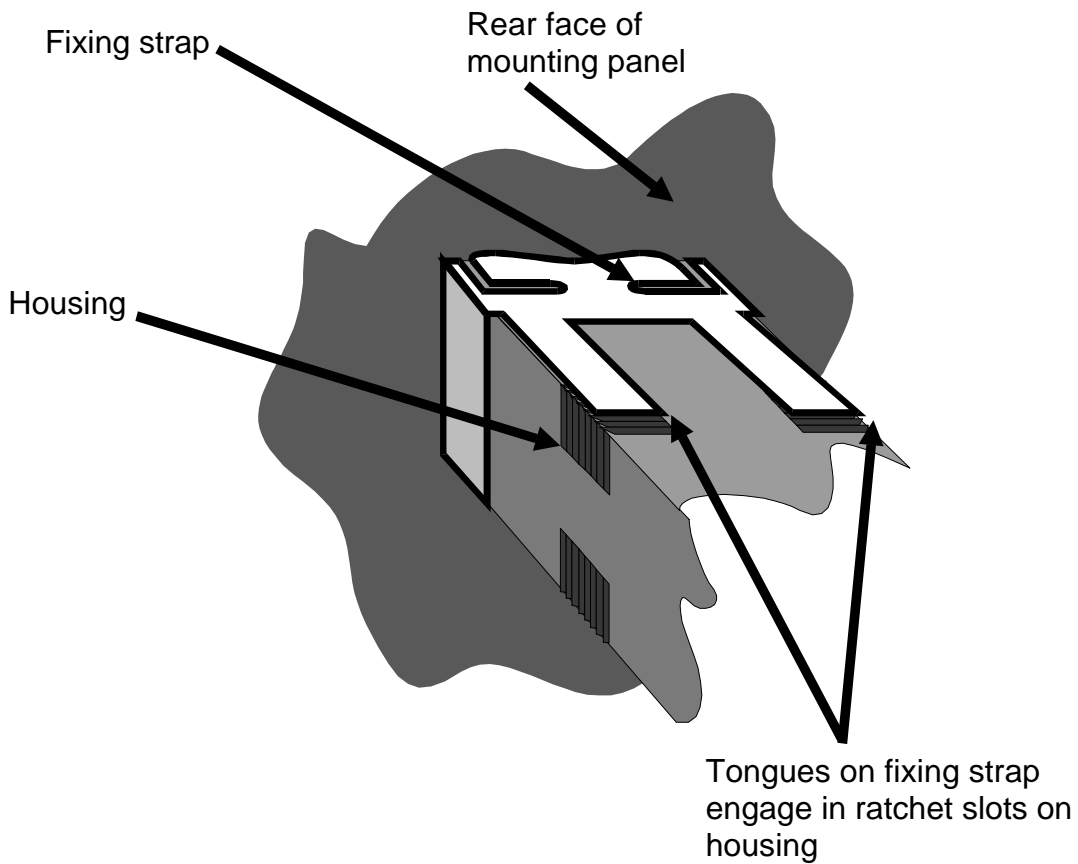

Figure 2-3 Panel-mounting the Controller
3. Slide the fixing strap into place (see Figure 2-3) and push it forward until it is in firm contact with the rear face of the mounting panel (the fixing strap should now hold the Controller firmly in place).